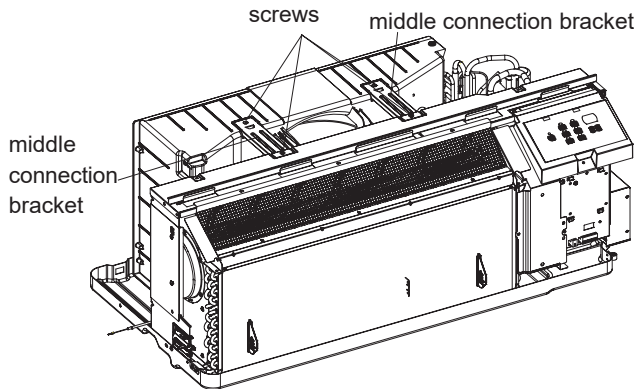

Figure 524
3. Remove middle connection brackets. See Figure 524.